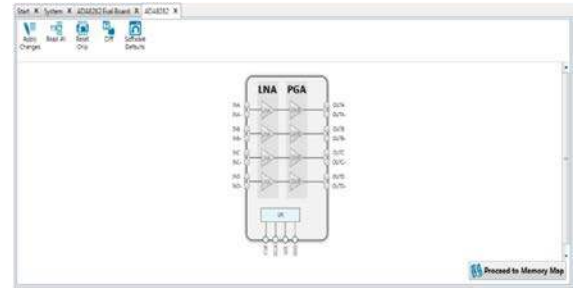

Figure 5. ADA8282 ACE Chip View
8. Double-click the ADA8282 component on the board to navigate to the chip view (see Figure 5). Click the tabs to select a previous or different view.
The memory map for the **ADA8282** can be accessed by clicking the **Proceed to Memory Map** found on the lower right portion of the chip view (see Figure 5). The memory map view can show either the register fields or the bit fields of the device.